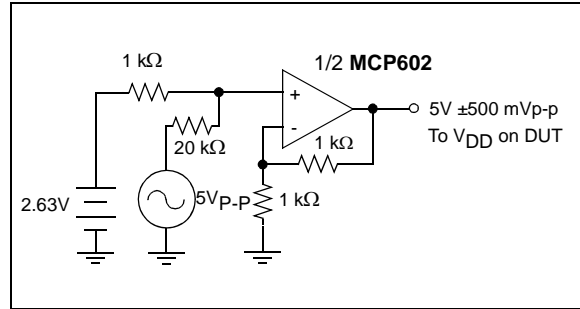

FIGURE 1-4: Power Supply Sensitivity Test Circuit (PSRR).
Note 4: $V_{DD} = 5V$ DC ± 500 mV_{P-P} @ 1 kHz, see test circuit Figure 1-4.
- Note 4:** $V_{DD} = 5V$ DC $\pm 500 \text{ mV}_{P-P}$ @ 1 kHz , see test circuit Figure 1-4.
- 4: $V_{DD} = 5V$ DC ± 500 mV_{P-P} @ 1 kHz, see test circuit Figure 1-4.